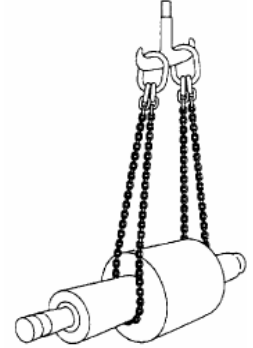

Fig. 22
8. Two Single Legs in Basket Hitch (see Fig. 22)